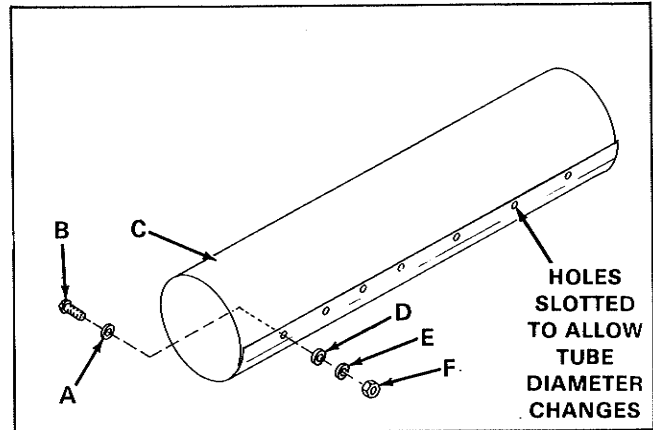

**Figure 11. Install Grass Catcher Adaptor**
- Place the grass catcher adaptor (H, figure 11) over the three bolts at mower discharge opening. Install the large flat washers received with grass catcher and deflector hardware on the two top bolts. Install the flat washer, lockwasher and nut (G, F and E) received with grass catcher on the other bolt.